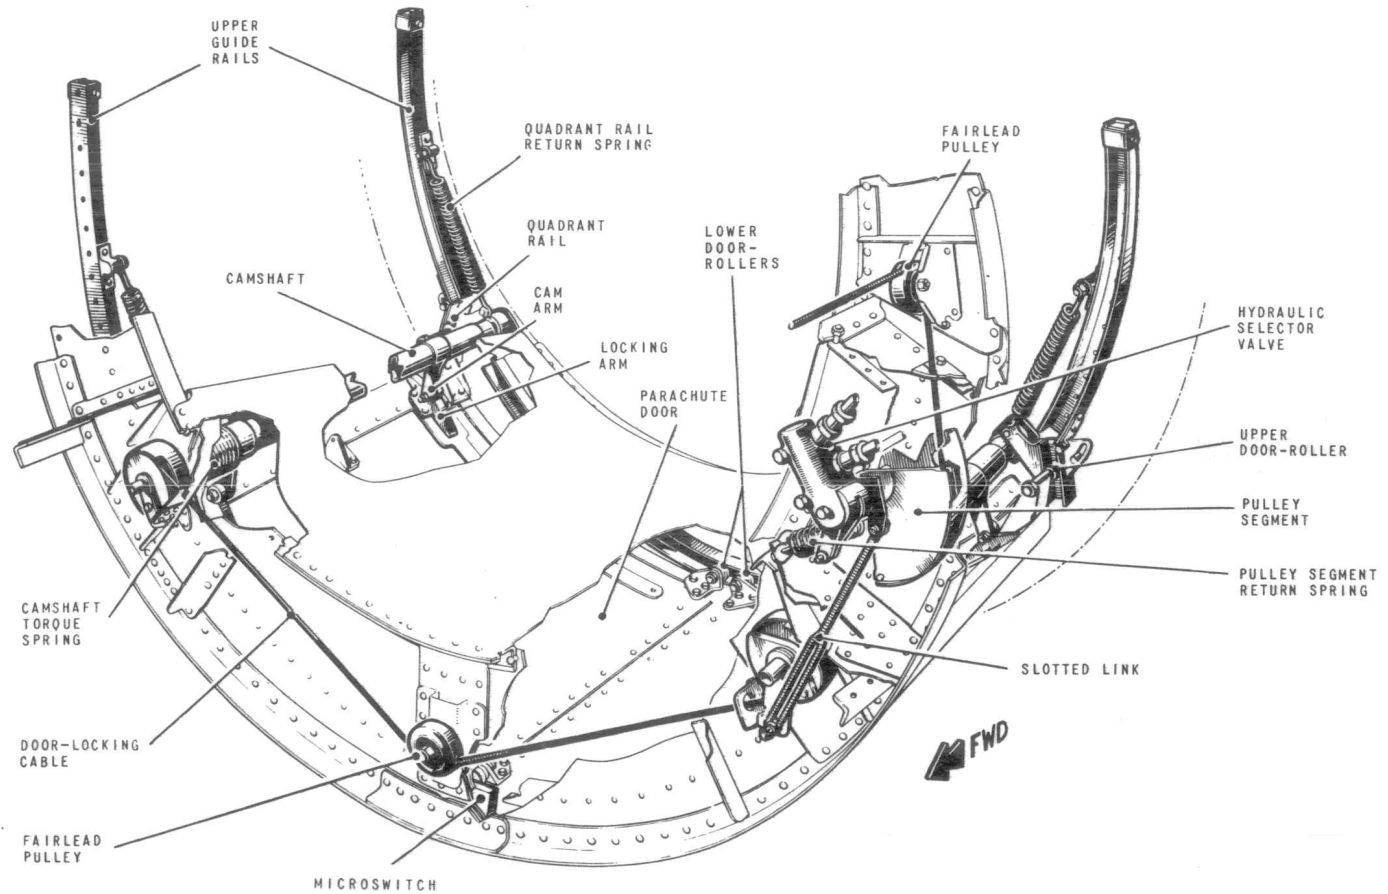

FIG.3. DOOR - OPERATING MECHANISM
### Door-operating mechanism (fig.3 & 4)
10. The parachute streamer cable is connected to the airframe through an electro-magnetic release unit, which is controlled from either of two push-buttons (*Sect.1, Chap.1, fig.10*). A microswitch (*fig.3*), operated by the compartment doors, isolates the electrical supply until the doors are open so ensuring that the release unit cannot be operated until the parachute is streamed. The microswitch may be bypassed, for test purposes, by a test button, fitted near the release unit.